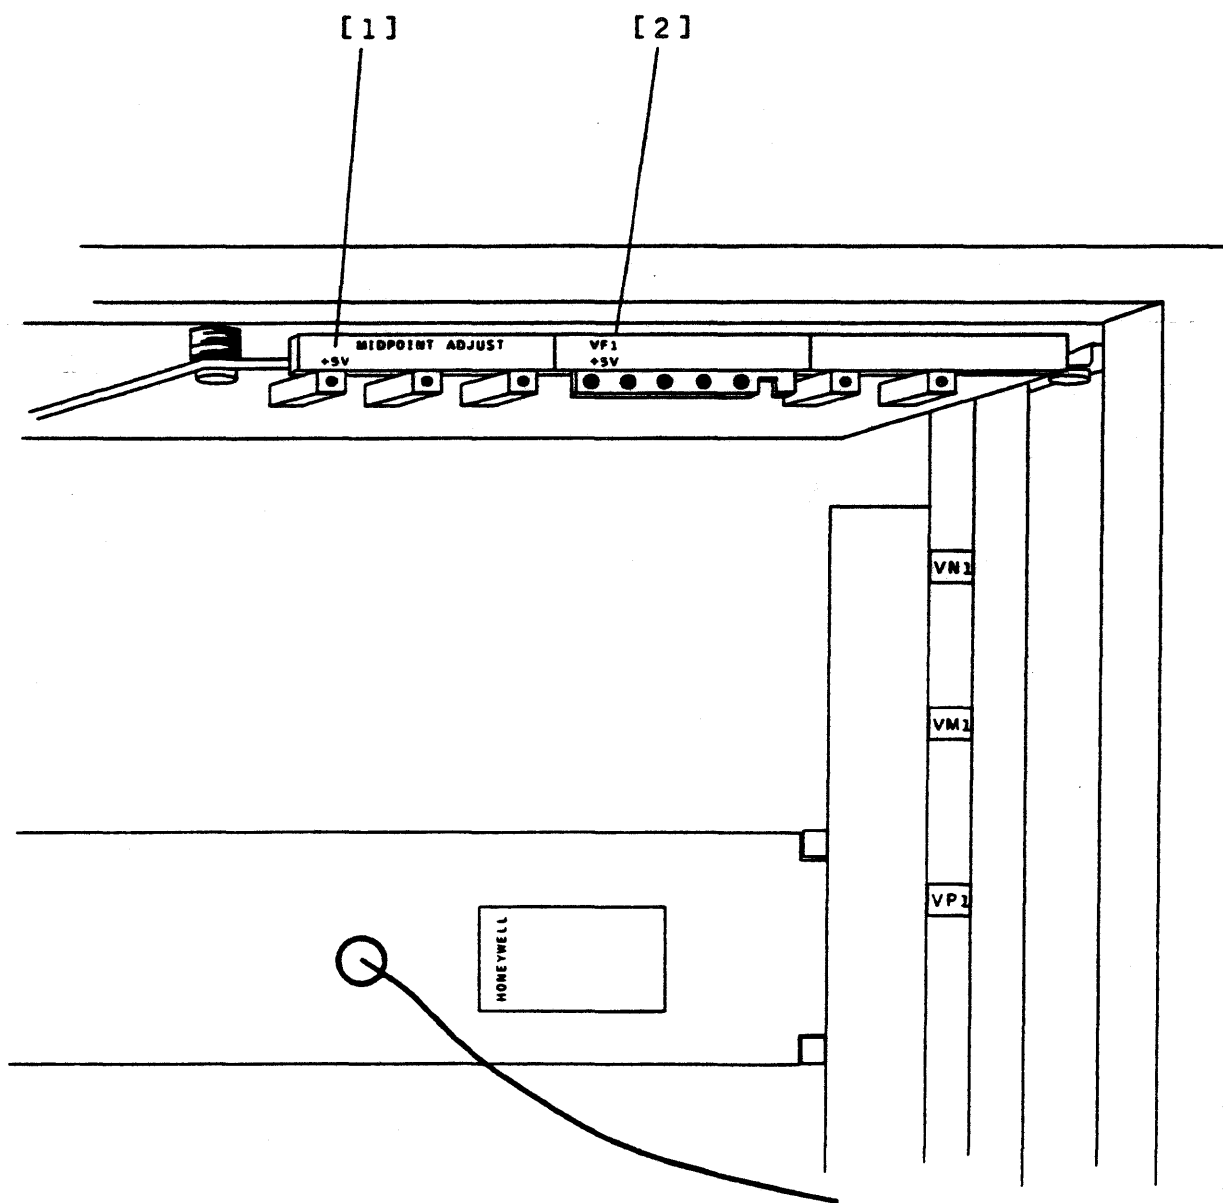

FIGURE 3.3-1. MONITOR PWB (58056729) ADJUSTMENT
2. Slowly turn pot to be adjusted clockwise (CW) until LED extinguishes (Figure 3.3-1, [1]).
3. Turn pot (slowly) in a counterclockwise (CCW) direction until LED illuminates (Figure 3.3-1, [2]).
4. Readjust pot (slowly) in a clockwise (CW) direction until LED extinguishes once again.